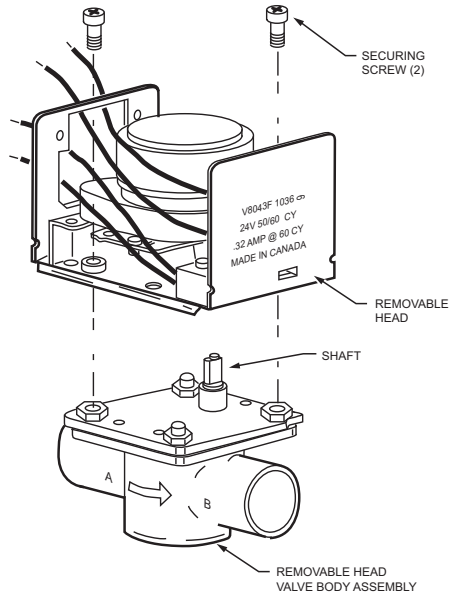

Fig. 6. Install new powerhead.
- d. Remove the two screws securing the powerhead to the valve body (Fig. 6).
6. Install new powerhead (see Fig. 6)
4. Install the new powerhead (see Fig. 6):